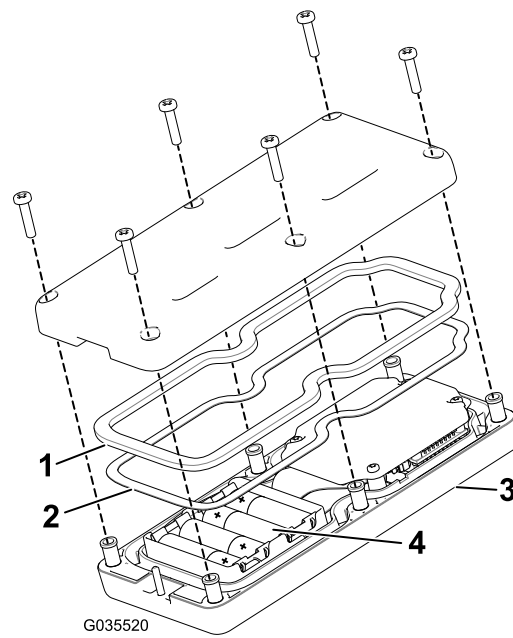

Figure 17
3. Ensure that the steel gasket and rubber seal are seated in the channel in the remote before you set the back cover in place (Figure 17).
4. Secure the cover with 6 screws (Figure 17) and torque them to 1.5 to 1.7 N·m (13 to 15 in-lb).
Note: If you install the batteries improperly, the unit is not damaged, but it fails to operate. The cradle is embossed with polarity markings for each terminal (Figure 17).